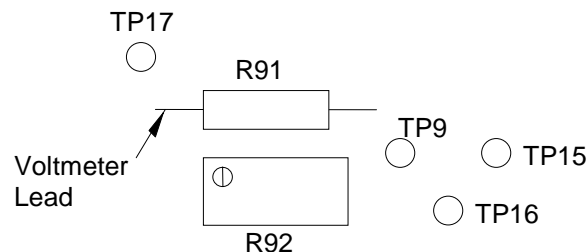

FIGURE 7-7. PHOTOCELL ADJUSTMENT VOLTMETER LEAD LOCATION
- b. Place the voltmeter from the left of R91 and TP7, and adjust R92 for 0 VDC, see Figure 7-7.